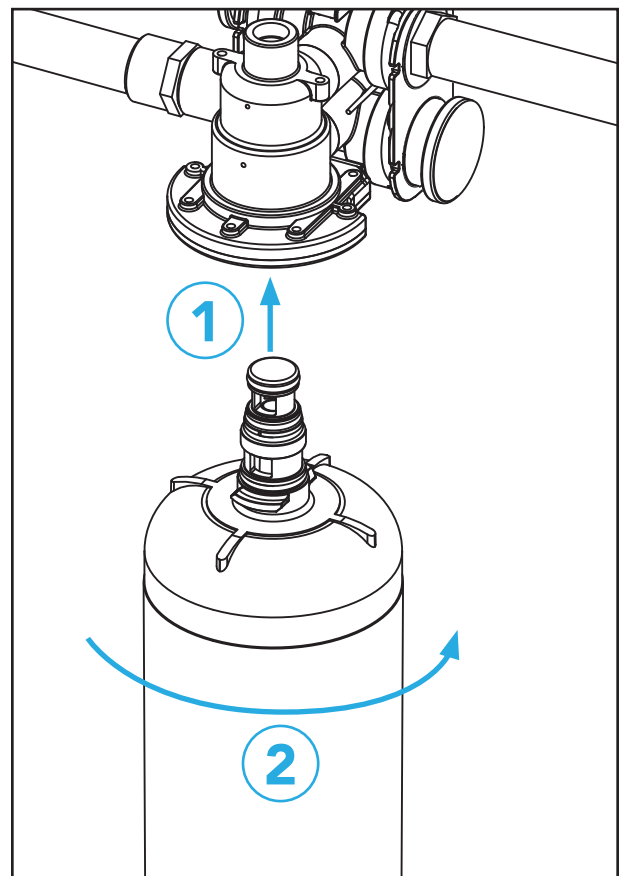

FIGURE 5. INSTALLING CARTRIDGE
1. Install the filter into the manifold by inserting it into the manifold head and swiftly turning it quarter turn to the right until it is fully seated (Figure 5).